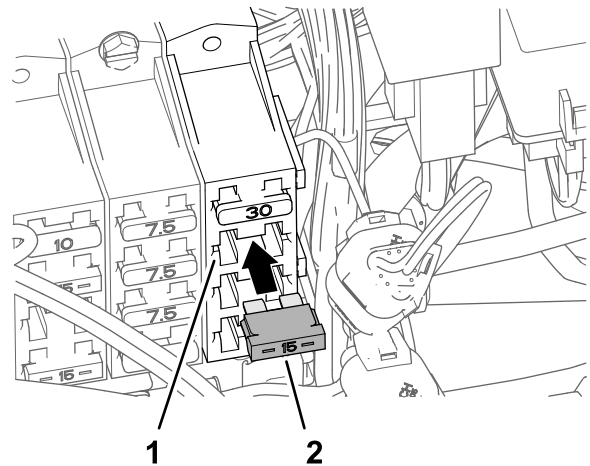

Figure 190
6. Insert the fuse (15 A) into fuse-socket 2 of fuse block 3 until the fuse is fully seated (Figure 190).